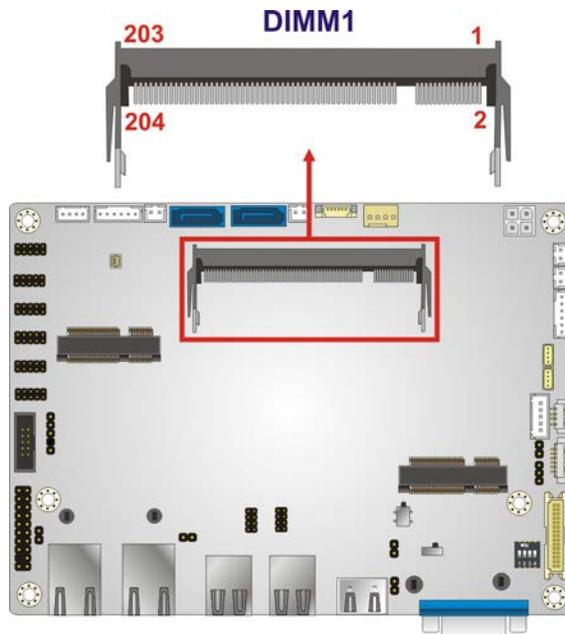

Figure 3-7: DDR3 SO-DIMM Slot Location
- CN Location:** See **Figure 3-7**